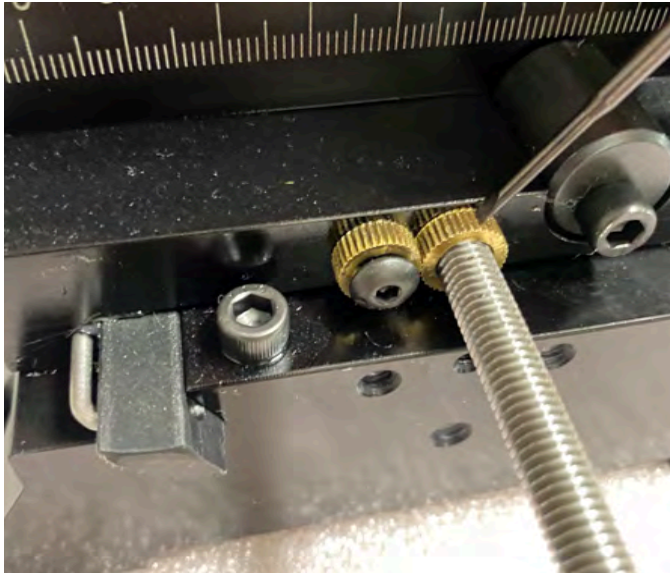

FIGURE 12
M. Leave a slight gap between the head of the 8-32 locking screw so you can adjust it. Then using a small flat end screw driver tighten the anti-backlash nut (see picture). Once the nut is tight, tighten the 8-32 locking collar screw. This will lock the anti-backlash nut in place so it cannot turn (see Figure 12).